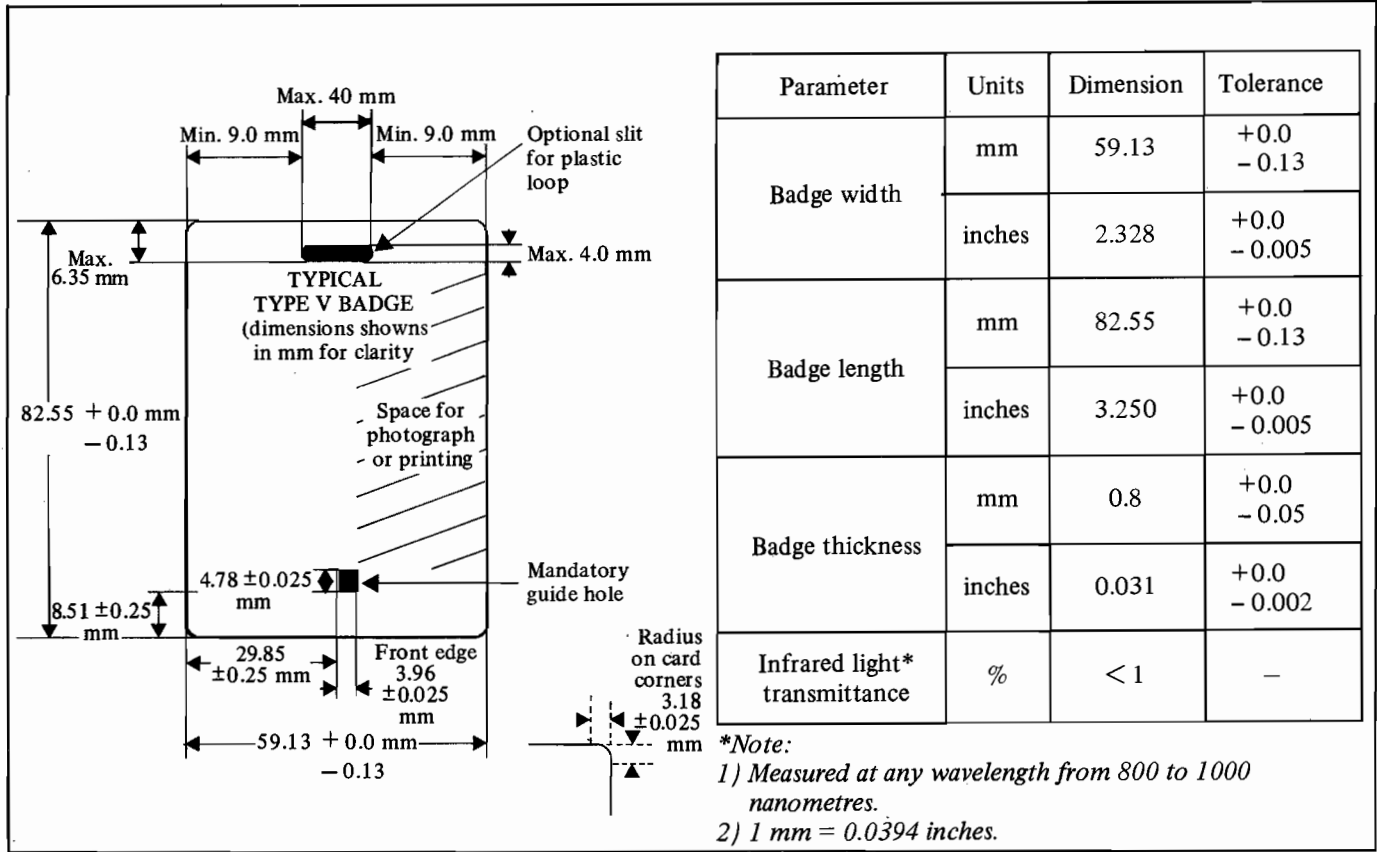

Figure 7-6 Type V Badge Dimensions
The badge dimensions are listed and depicted in figure 7-6.
- 2) *When using a photograph, the badge must be uniformly thick and respect the measurements contained in figure 7-6. (i.e. the badge must not have a "stepped" surface). A recess in the badge may be used to house the photograph.*
The dimensions listed in figure 7-6 may be used to indicate to your supplier the dimensions of Type V Badges.